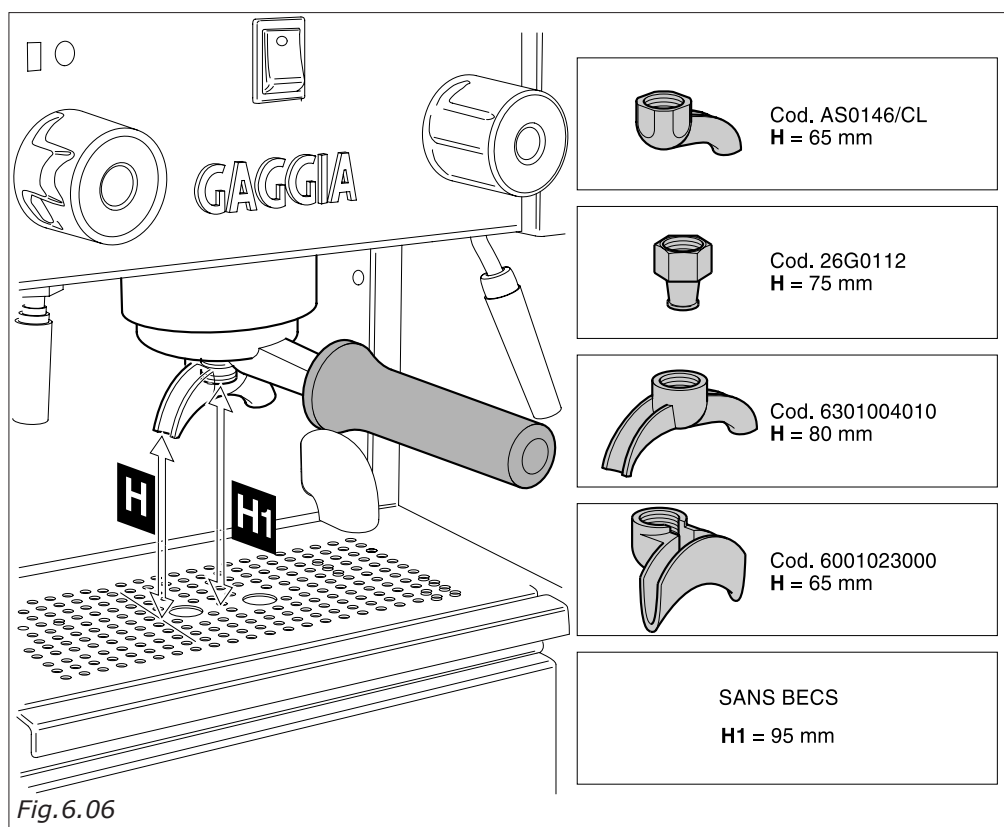

Fig.6.06
6.2 BECS FOURNIS AVEC LA MACHINE (Fig.6.06)